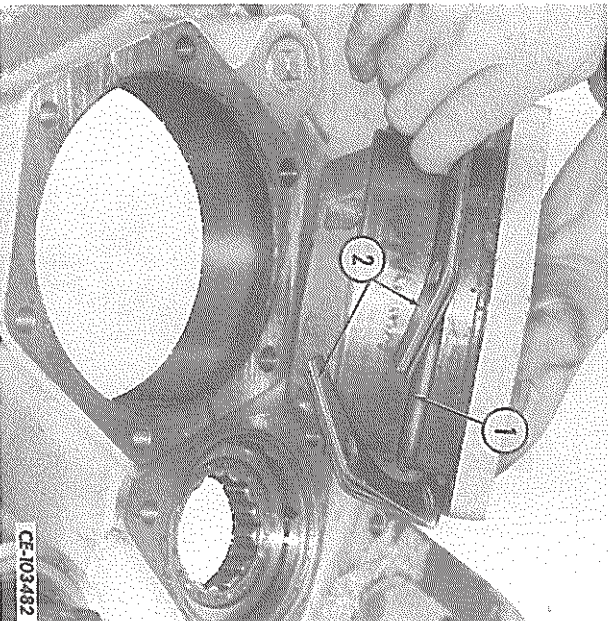

FIG. 32 — Removing the Pinion Shaft Front Bearing Cage
21. Remove the capscrews and lockwasher securing the bearing cage to the front cover. The bearing cage is held in the front cover by the pressure of the "O" ring (1, Fig. 32) on its outside diameter and can be tapped out from the underside of the cover using a wooden block and hammer. Keep the shims (2) that fit between the bearing cage and